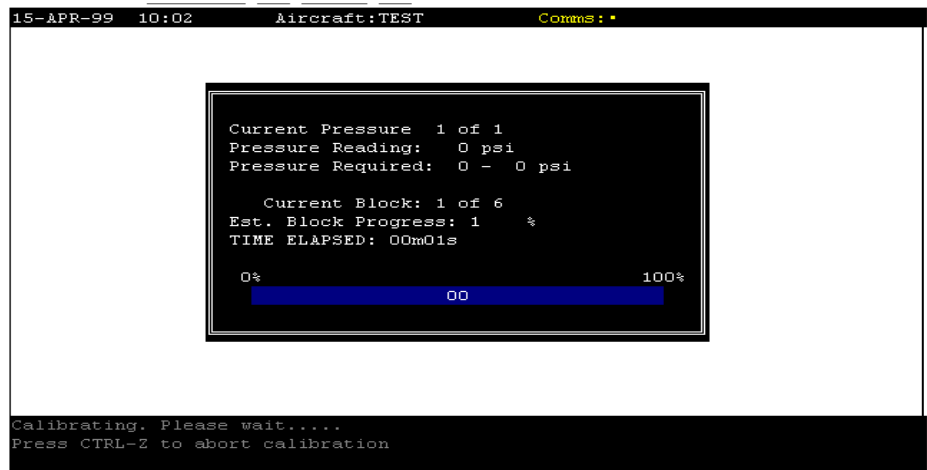

Figure 3.25 – 'Performing Calibration' screen.
- (e) The ANCU will automatically drive all Loudspeakers for periods of 2 to 3 seconds. The 'Performing Calibration' screen will be shown on the MT display (Ref. Figure 3.25).